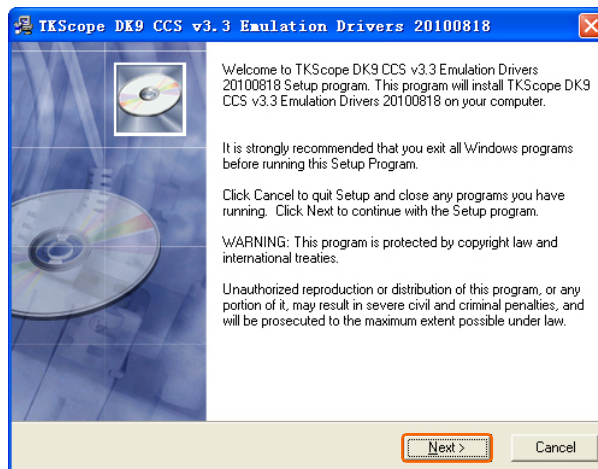
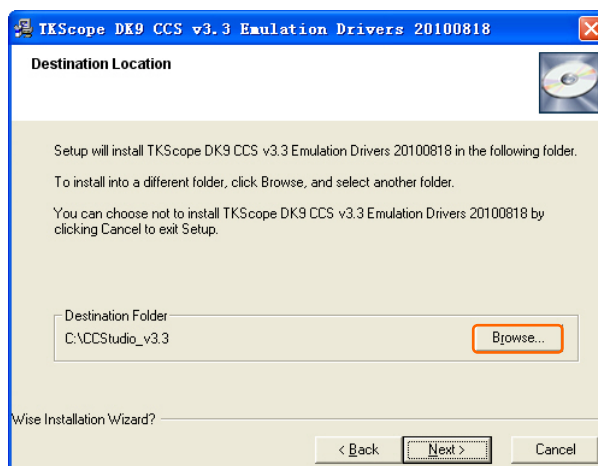
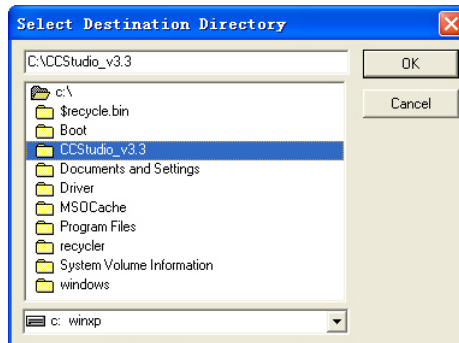

Figure 2.1 Install TKScope driver
Figure 2.2 Driver installation path
Figure 2.3 Select destination directory
1. Double-click SetupTKScopeDK9ccs_v303.EXE, the system will pop-up dialog box as shown in Figure 2.1.
2. In Figure 2.1, click [Next] to continue, the system will pop-up dialog box as shown in Figure 2.2, prompt the user to select the driver installation path.
3. In Figure 2.2, click [Browse], the system will pop-up dialog box as shown in Figure 2.3. Drivers must be installed to the CCS3.3 IDE directory.
For example, CCS3.3 development environment installed on the C drive, therefore, TKScope emulator driver installation path to C: \ CCStudio_v3.3, as shown in Figure 2.3.